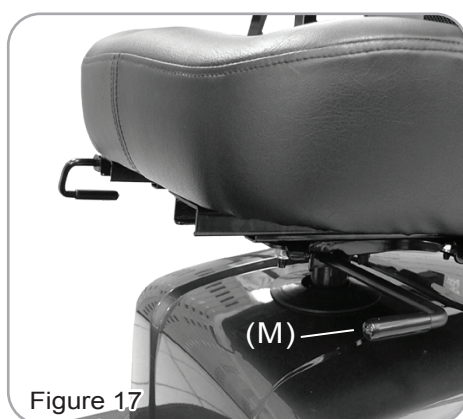

Figure 17
Remove the seat by pull the Seat Rotation Lever (M) up and then lift off. (See Fig. 17)